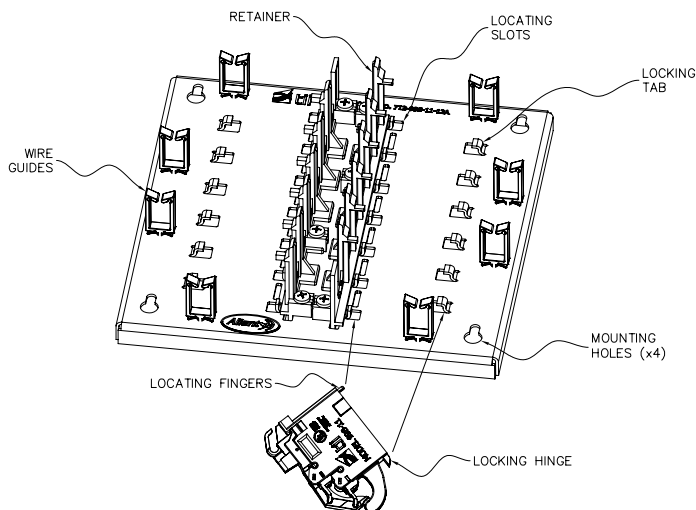

Figure 1
2. Angle the module so that the locking hinge is secured under the locking tab (See Figure 1).
3. Align the (2) front locating fingers with the locating slots. Engage the right end ledge under the retainer. (See Figure 1).
7. The customer has the option of installing a #10 Master lock around the customer lock hasp (See Figure 1).